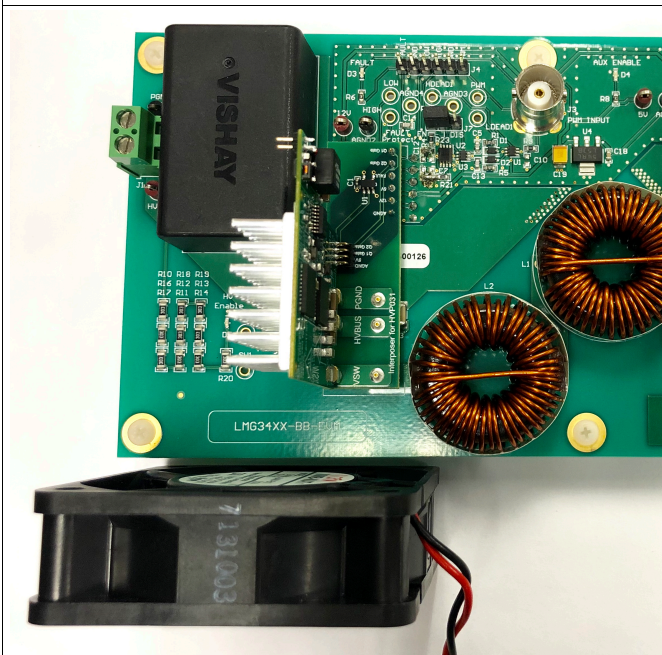

Figure 13. Recommended Configuration for Heatsink and Fan
- Cooling with an external fan is recommended to control the temperature of LMG3410R150 and the heatsink attached to it. Place the fan next to the EVM as shown in Figure 13.